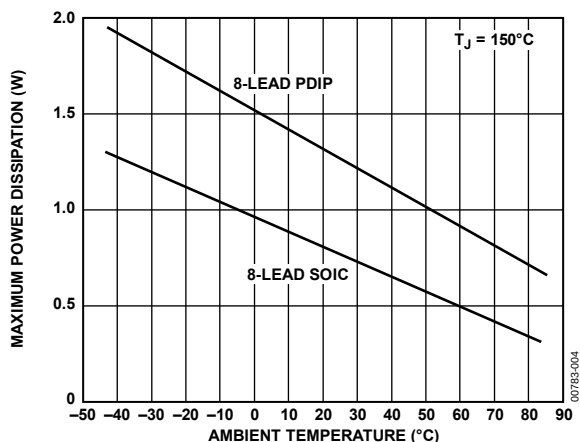

Figure 4. Maximum Power Dissipation vs. Temperature for SOIC and PDIP
| 8-Lead PDIP (N)                         | See Figure 4                                |
| 8-Lead SOIC (R)                         | See Figure 4                                |